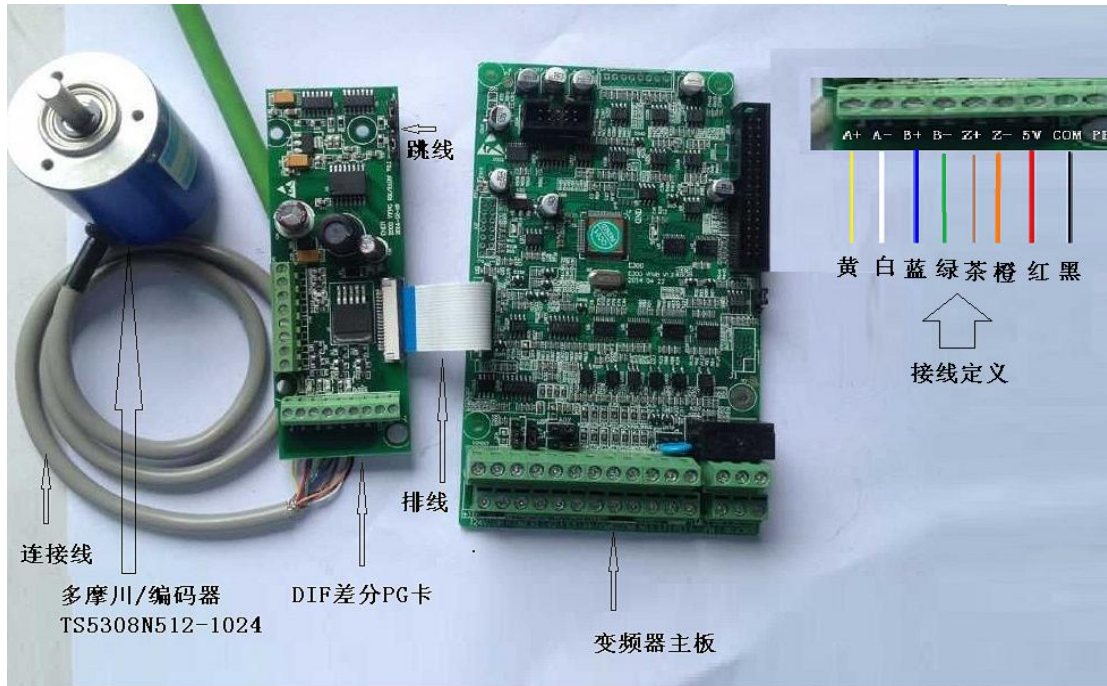

Figure 2: HV610-PG-DIF test
- 2) Connect the HV610-PG-DIF card to the encoder. As shown in Figure 2 below: